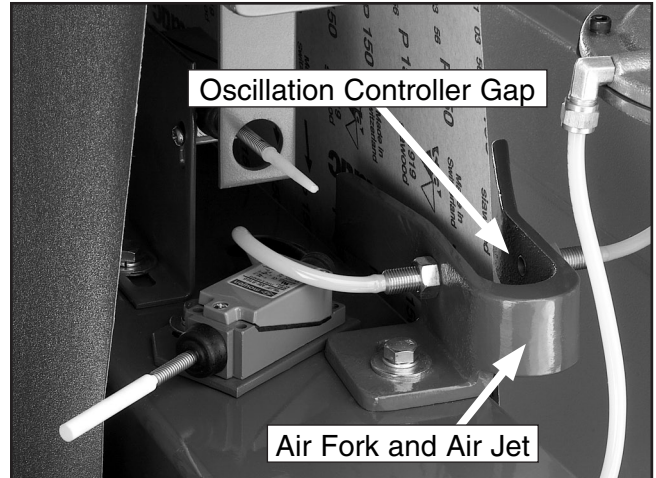

Figure 27. Oscillation components.
3. An adequate stream of air through the air fork gap (**Figure 27**) is essential for proper oscillation. If the jet of air is weak through the gap, the belt will track away from the controller and into the limit switch on the opposite end of the roller. The pivot action of the upper roller, and the resulting oscillation of the belt, are dependent upon adequate airflow through the air fork gap.